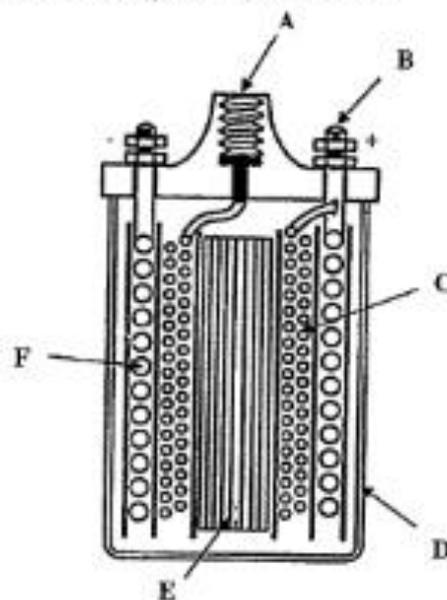

Figure 1
(c) (i) Figure 1 shows one of the components in the ignition system. Study the figure carefully and answer the questions which follow:
- Give the function of the component indicated by Figure 1.